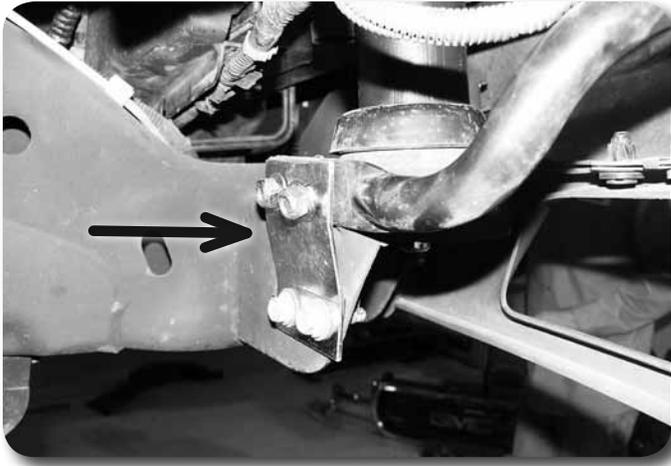

Figure 24
58. Mount the outside bumper support relocation brackets (shown) to the outside bumper support brackets with 7/16" x 1-1/4" bolts, nuts, and 3/8" USS washers. Do not tighten at this time **Figure 24**.
59. Loosely mount the relocation brackets to the original bracket location using the stock hardware Figure 24.